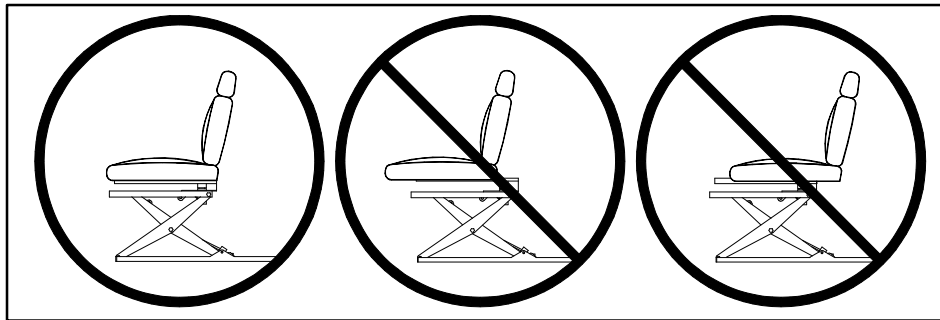

FIGURE 2-2: PROPER SEAT ATTACHMENT POSITION
- b. Refer to **Figures 2-2** and **2-3**. Position factory seat onto factory seat base. Rear-edge of seat must be **EVEN** with rear-edge of Swivel Plate. Use factory hardware to attach seat to factory seat base.